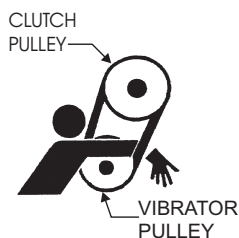

**Figure 18. Engine Air Filter**
2. To clean or replace air filter loosen the wing nut on the air filter housing (Figure 18), remove the cover and take out air filter cartridge. If only cleaning of the air filter is desired blow through the air filter cartridge from the inside, moving a jet of dry compressed air up and down until all dust is removed.